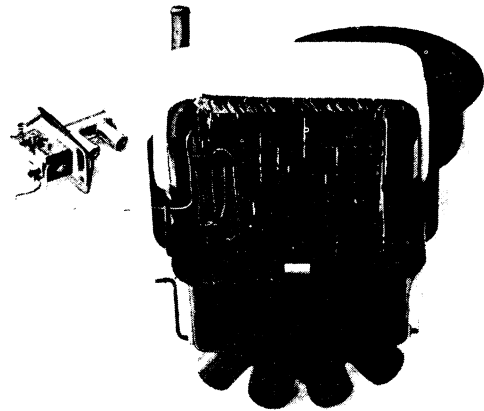

Fig. 8-53. Placing of thermostat capillary tube
2. Install the thermostat capillary tube, see Fig. 8-53.